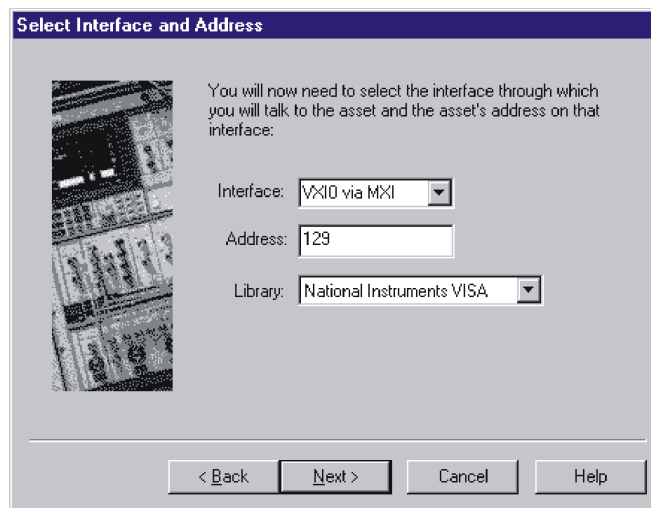

Figure 1-23 Choose the Interface, Address, and Library for the VXI Digitizer
- 4 In the **Select Interface and Address** box (Figure 1-23):